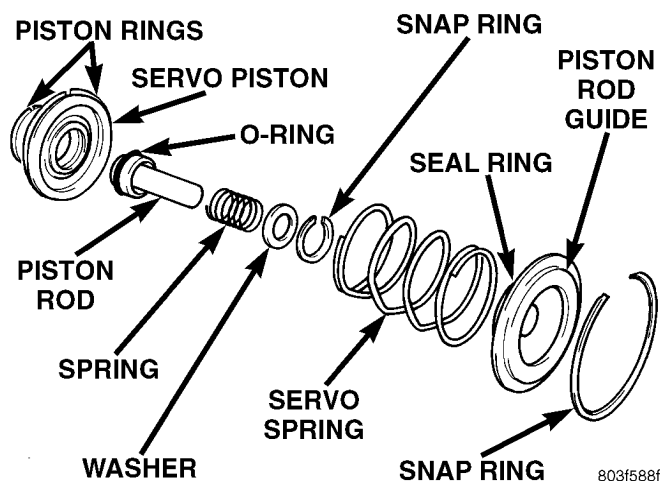

Fig. 156 Front Servo
- (1) Remove seal ring from rod guide (Fig. 156).
- (2) Remove small snap ring from servo piston rod. Then remove piston rod, spring and washer from piston.
- (3) Remove and discard servo component O-ring and seal rings.
- (1) Lubricate new O-ring and seal rings with petroleum jelly and install them on piston, guide and rod.
- (2) Install rod in piston. Install spring and washer on rod. Compress spring and install snap ring (Fig. 156).